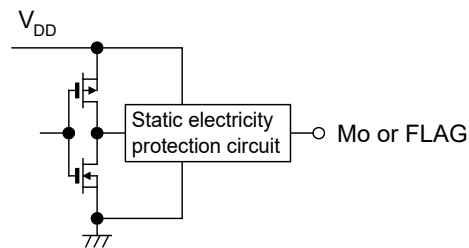

Figure 27. MO pin and Flag pin general internal circuit layout
**Output Pins (MO and Flag).** The MO and Flag output pins are designed as monitor outputs, and inside of the IC is an output inverter (see figure 27). Therefore, let these pins float if they are not used.